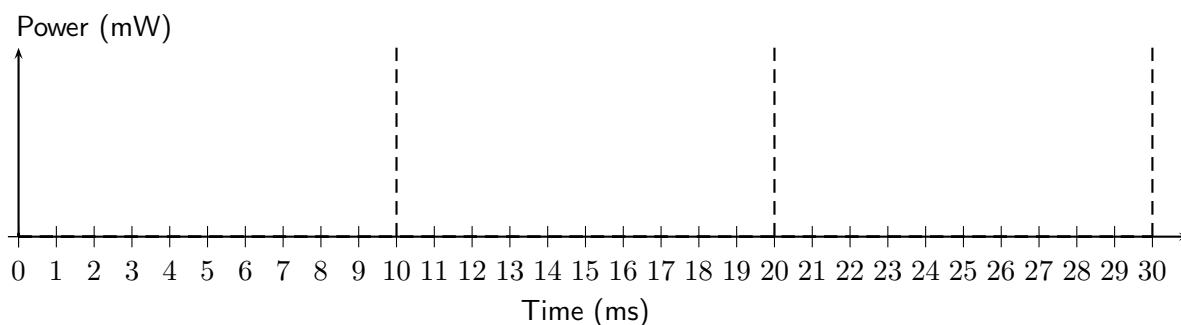

Abbildung 25: Diagram for Aufgabe 3.2 (d)
- (d) (3 Punkte) Now assume that the schedule is NOT necessarily work-conserving, i.e., the only condition is that deadlines are met. Plot the power consumption of the schedule which minimizes the energy consumed. Please use Figure 25. What is the value of E_{av} ?